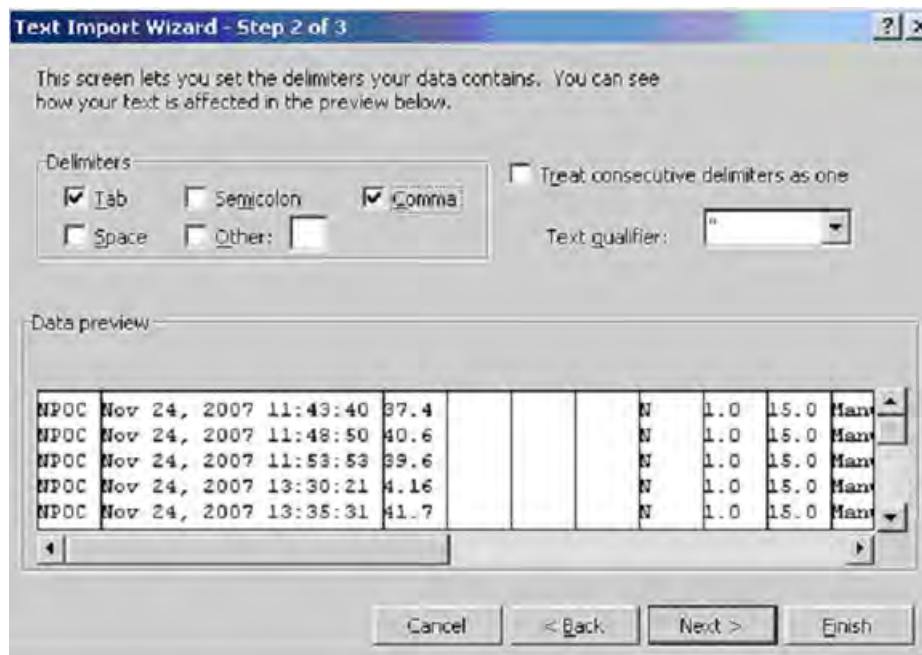

Figure 132: Microsoft Excel Spreadsheet Program — Text Import Wizard - Step 2
7. Make sure the **Comma** check box is selected, to identify the file as being comma-delimited (see Figure 132).